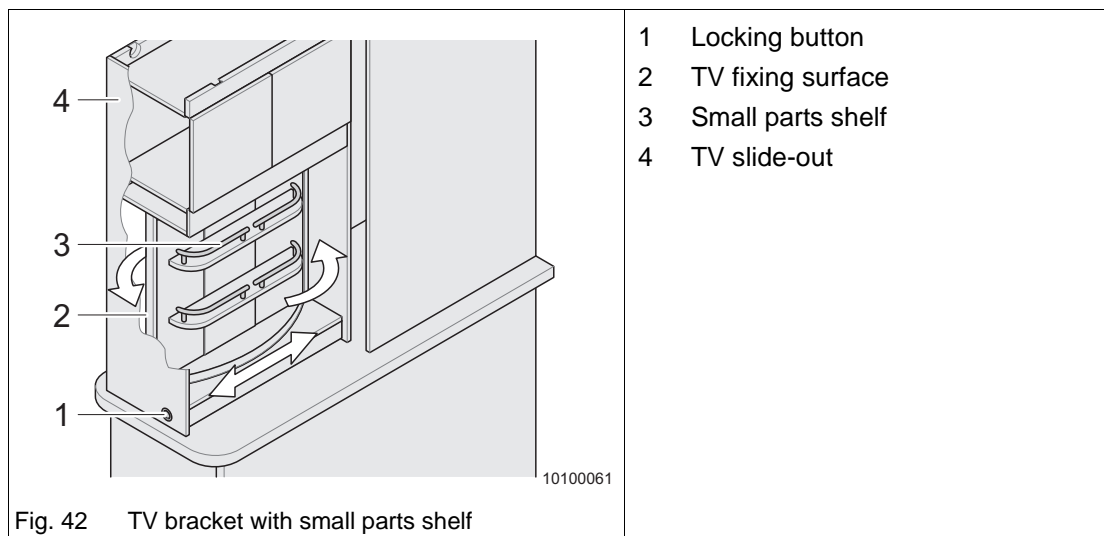

Fig. 42 TV bracket with small parts shelf
Some vehicles are fitted with a TV bracket combined with a small parts shelf. The TV (flat screen) can be fitted on the TV fixing surface (Fig. 42/2) on the rear side of the small parts shelf (Fig. 42/3). You can swivel the TV towards the sleeping or living area when in use.
- ➔ Unlock the locking button (Fig. 42/1) of the TV slide-out (Fig. 42/4) (Chapter 8.9).
- ➔ Pull the TV slide-out (Fig. 42/4) towards the middle of the vehicle.